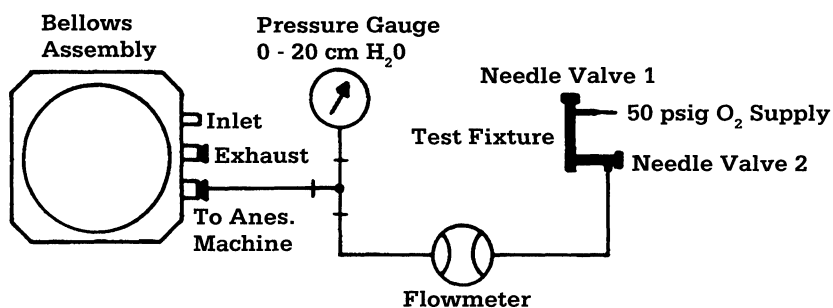

Figure 3-2
1. Connect the test equipment to the bellows assembly as shown in Figure 3-2.